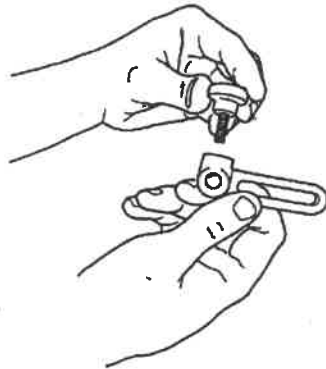

Fig. A-31
2. Insert the stop rod (1) in the body's (2) rod hole, shown in Fig. A-31.